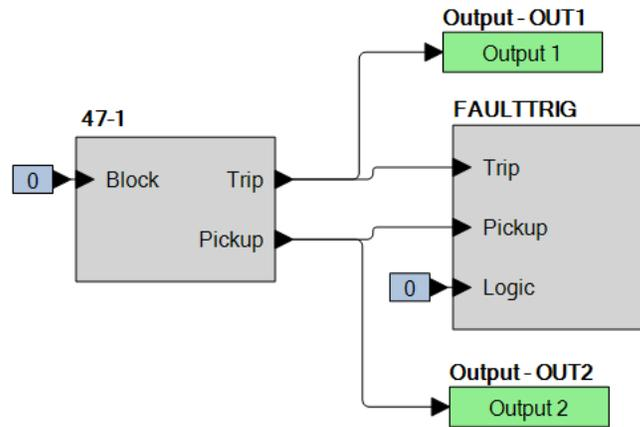

Figure 44-1. BESTlogicPlus Settings
Step 2: Use BESTCOMSP^{Plus} to configure the BESTlogic*Plus* programmable logic shown in Figure 44-1.
- Step 4: Prepare to monitor the 47-1 function operation. Operation can be verified by monitoring OUT2 (see Figure 44-1).